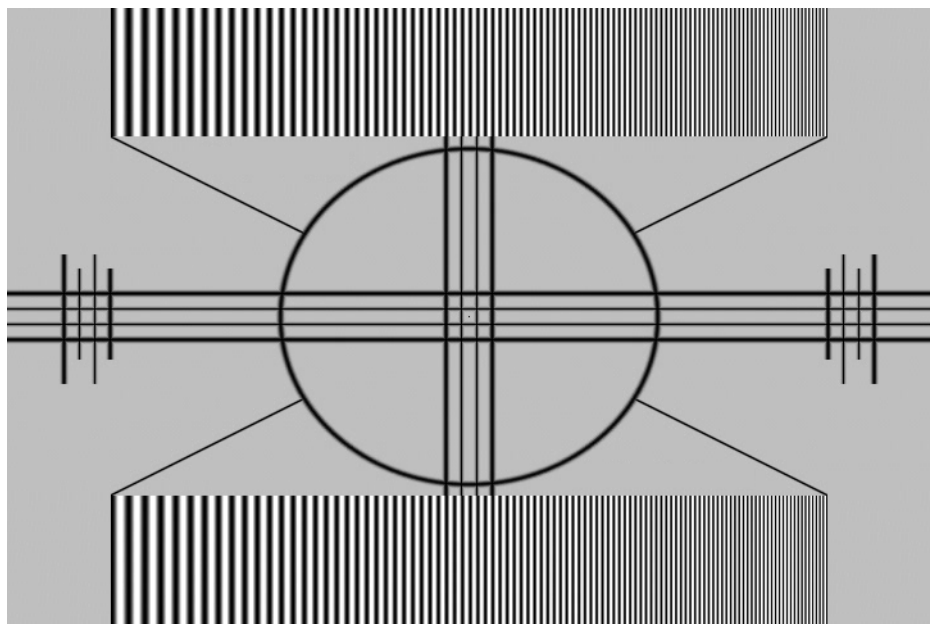

**Figure 4-5. Typical Test Pattern for Adjusting Sharpness**
**Sharpness:** “Sharpness” is the amount of high-frequency detail in the image. To adjust sharpness, select Sharpness from the Picture menu and press **ENTER** or **SELECT**. On your external test pattern source, select a pattern like the one shown in Figure 4-5. Adjust as needed, looking for white edges around the transitions from black to gray and differently-sized lines in the “sweep” patterns at the top and bottom. Lower the sharpness setting to eliminate them.